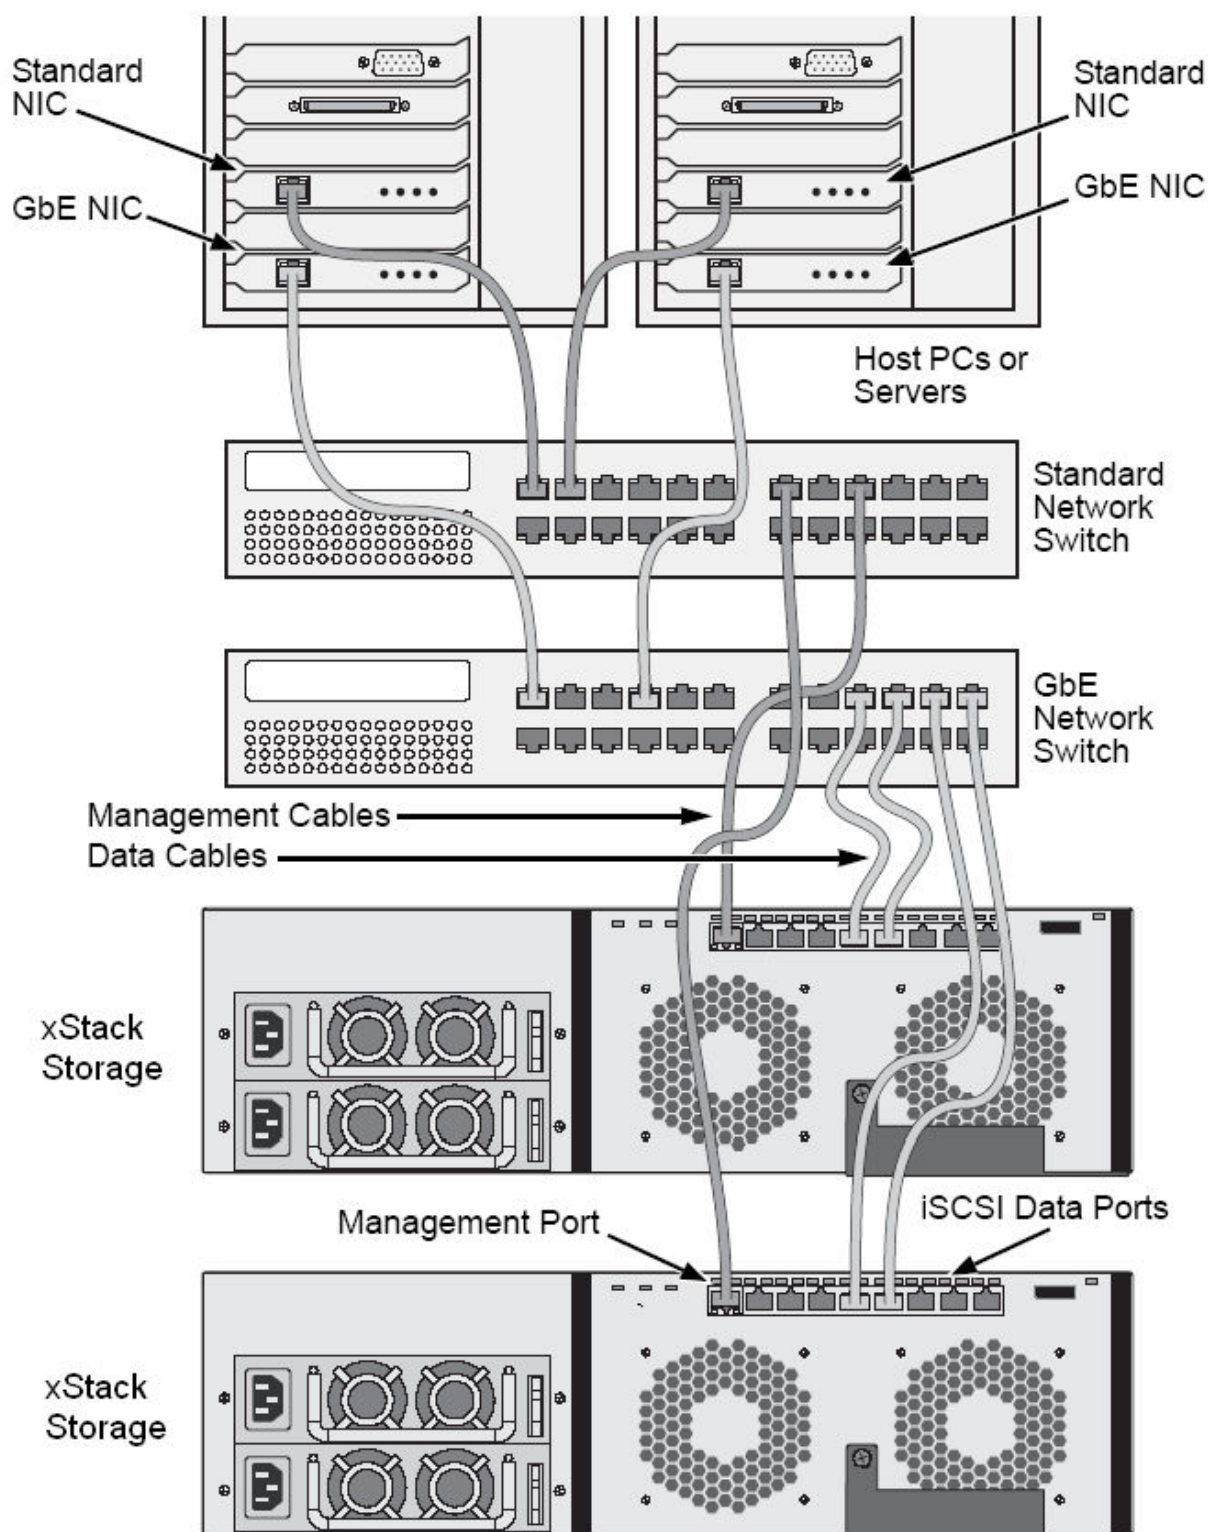

Figure 3-2. Connecting the Data and Management Ports (8-port configuration shown)
1. Attach one end of an Ethernet cable to the data port labeled **iSCSI-0** on the DSN-4X00 primary array back panel (see Figure 3-2). Connect the other end of the cable to your SAN or host system.
2. Connect the other end of the cable into the DSN-4X00 primary array **MGMT** port (see Figure 3-2).